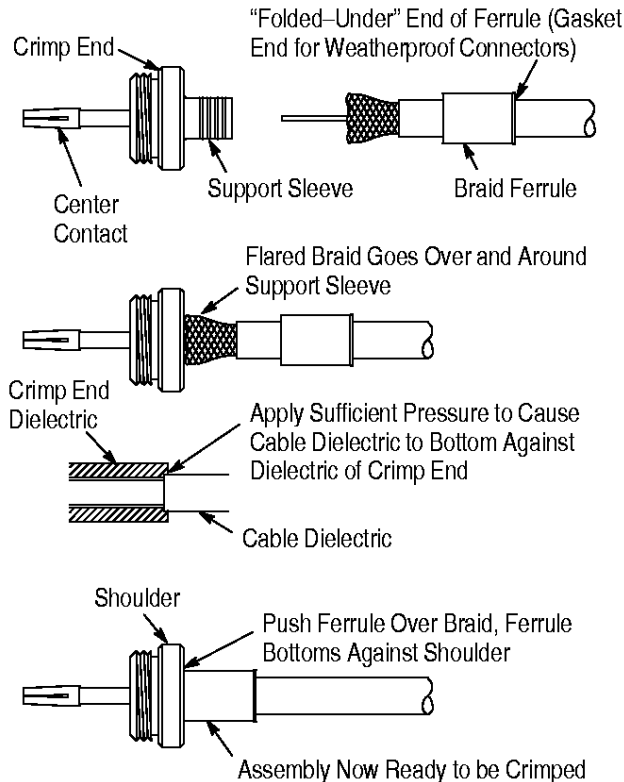

Figure 1
- Push the crimp end back under the braid so that the braid passes over and around the support sleeve. Apply sufficient pressure to cause the cable dielectric to bottom against the dielectric of the crimp end. Refer to Figure 1. Twist the crimp end slightly to ensure bottoming.